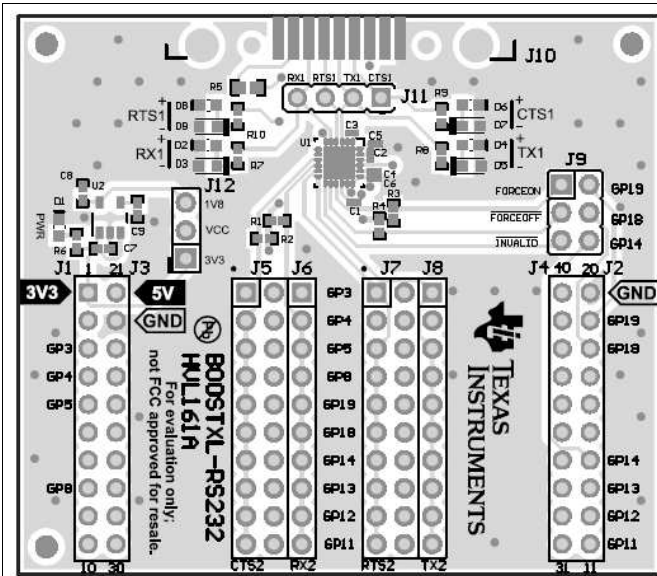
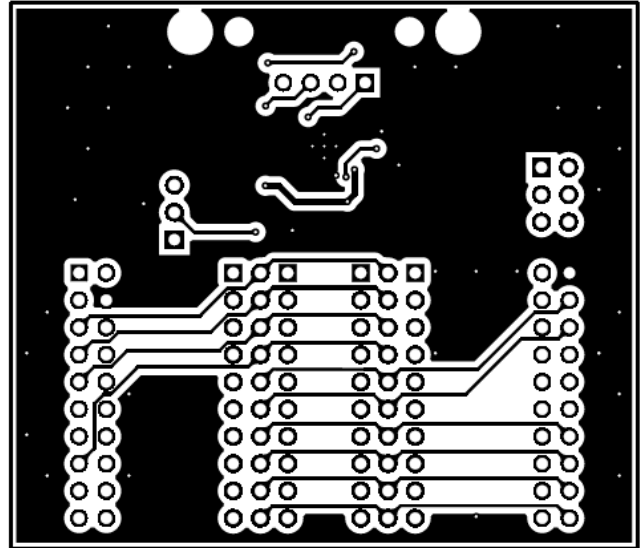

Figure 13. Top Layer Routing
Figure 14. Bottom Layer Routing
**NOTE:** See Figure 13 and Figure 14 for more clarification of how the headers are routed.
The schematic is shown in Section 6.3, the top layer and bottom layer PCB layouts are illustrated in Figure 13 and Figure 14.
Figure 13 shows the top layer routing of the BOOSTXL-RS232. Figure 14 shows the bottom layer routing of the BOOSTXL-RS232.